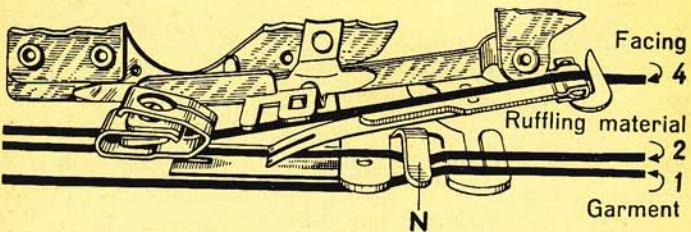

Fig. 56
- 1) Insert material to be ruffled between the two blue blades and under the separator guide «N» (LINE 2, Fig. 56).
attached under separator blade «K» and under separator guide «N» (LINE 1, Fig. 56).
- 3) Place facing material over upper blade (LINE 4, Fig. 56). If facing is to be on *right* side of garment, place right sides of garment and ruffle together.